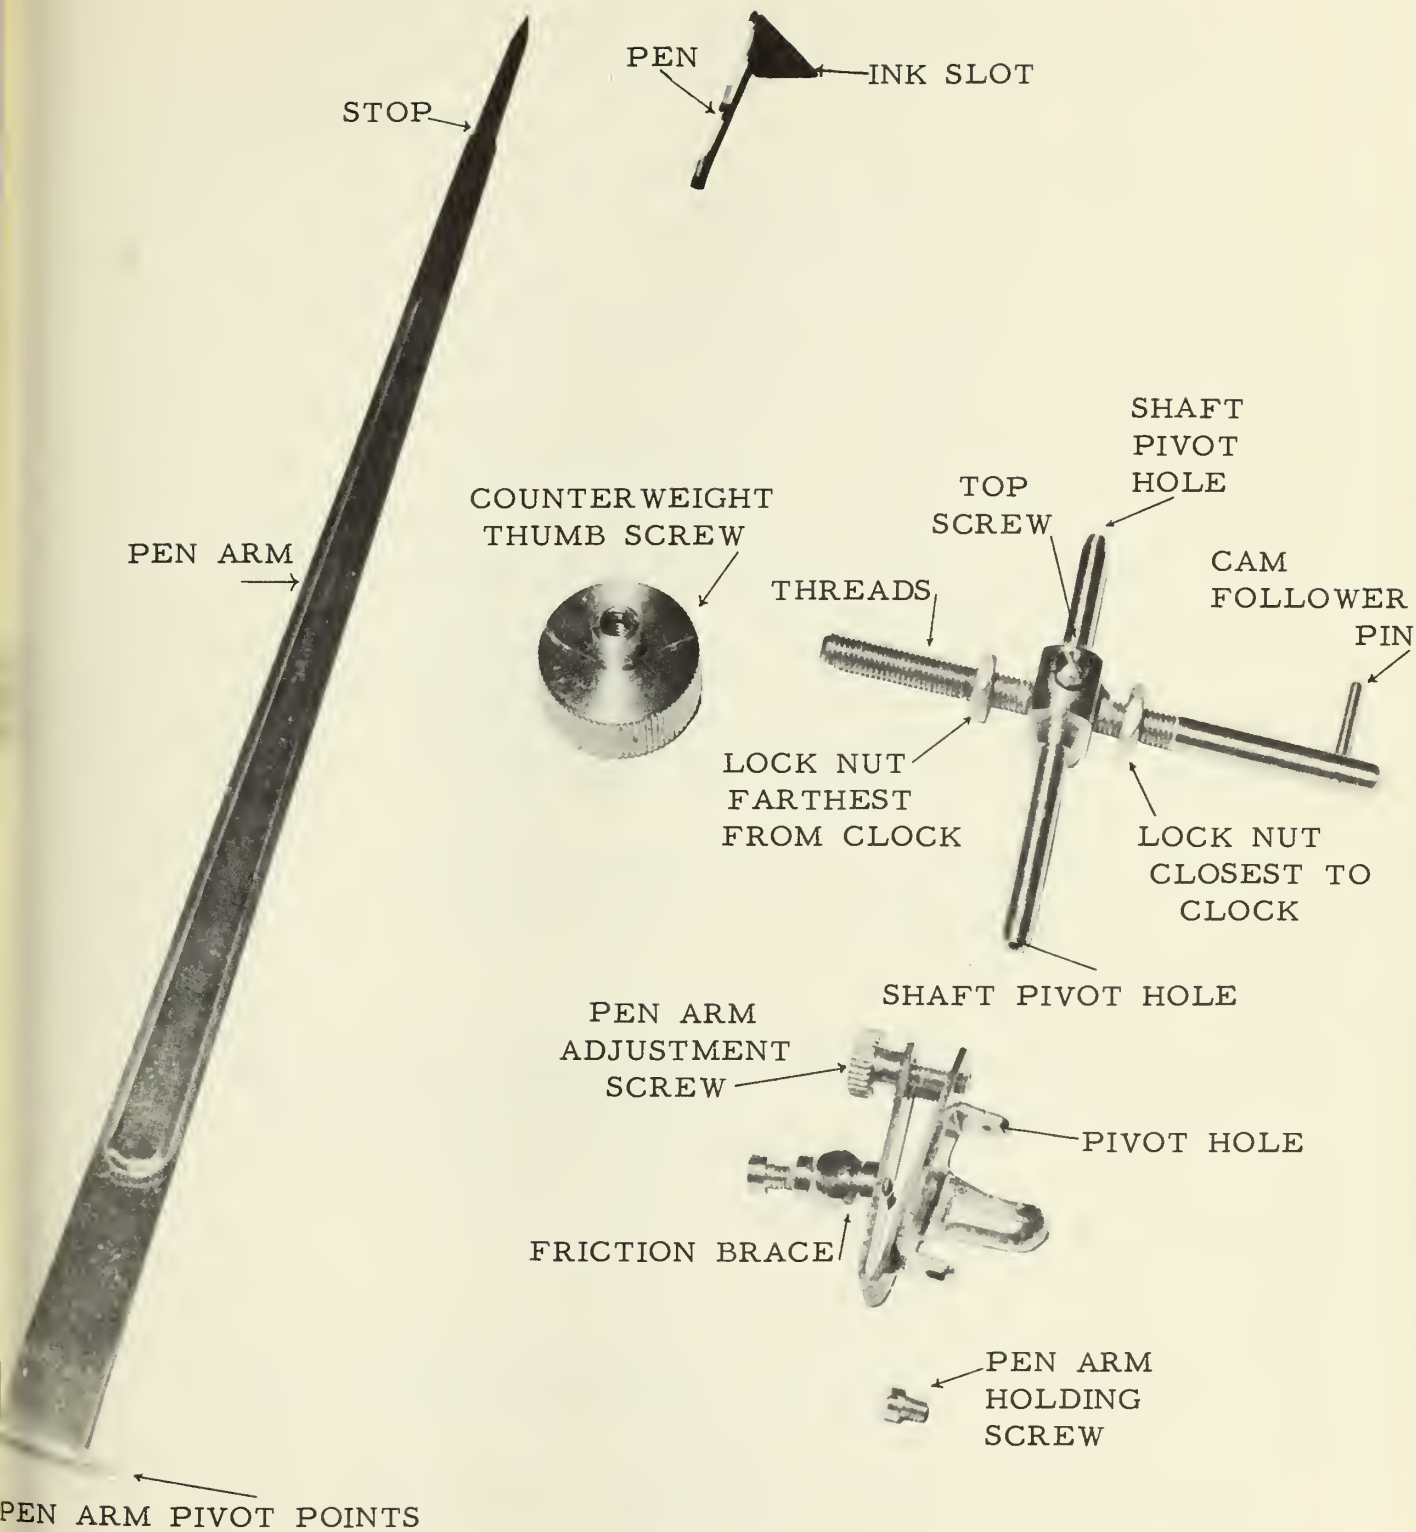

Figure 7.--Types A and B. Pen arm-- cam follower shaft, detail of parts.
22. Pen arm and cam follower shaft (fig. 7):
26. Pen arm adjustment (fig. 7):